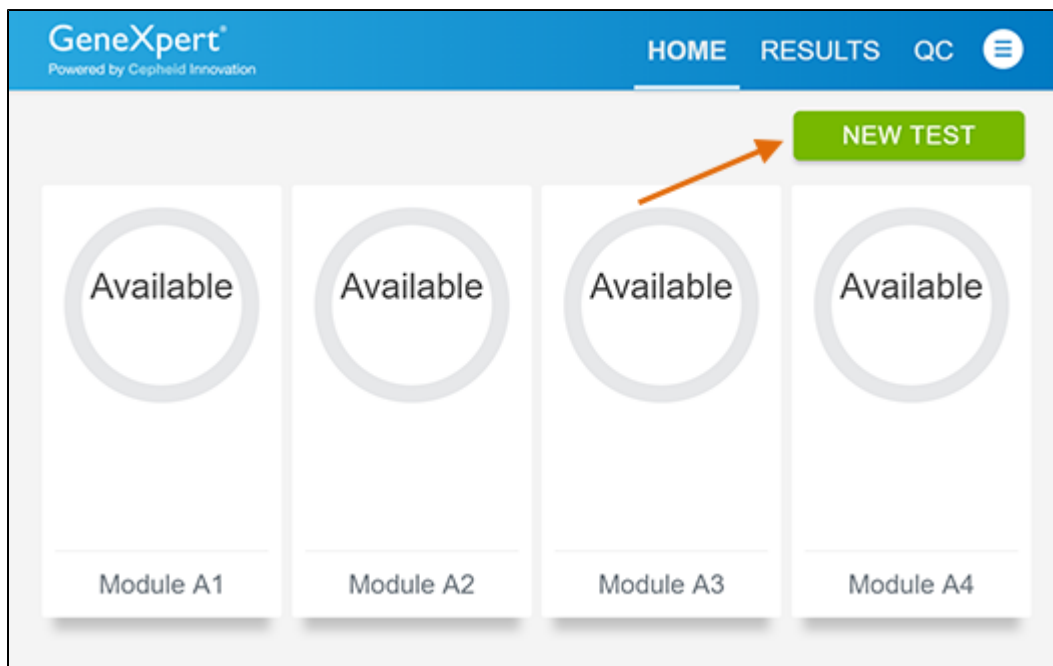

Figure 14. Home Screen
2. Touch the **NEW TEST** button on the **Home** screen (see Figure 14).